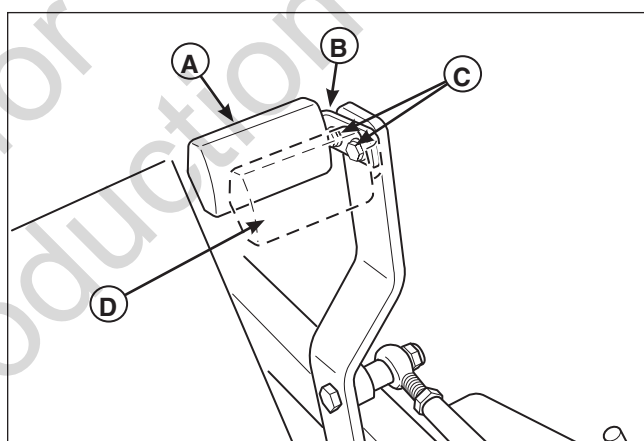
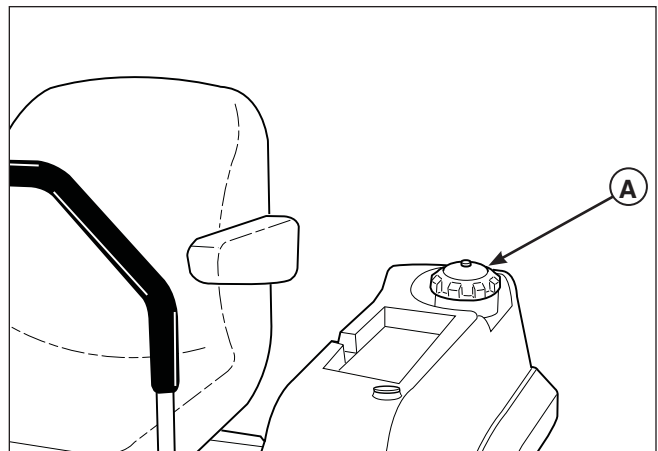

Figure 17. Foot Pedal Adjustment
Figure 18. Fill Fuel Tank
1. Remove the foot pedal (A, Figure 17) from the pedal mount tab (B).
2. Remove the pedal mount hardware (C) and rotate the tab 180 degrees.
4. Reinstall the foot pedal on the pedal mount tab in the proper orientation as shown in Figure 18.
1. Remove the fuel cap (A, Figure 18).